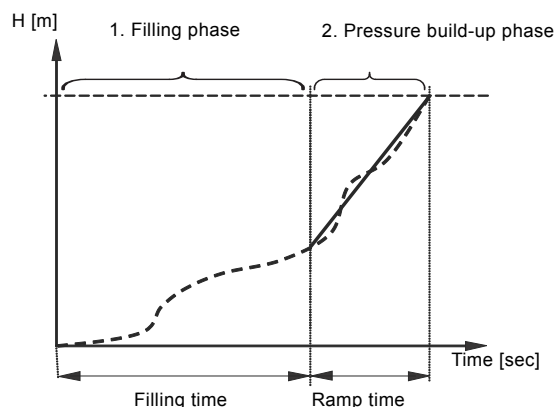

Fig. 16 Filling and pressure build-up phases
2. When the pressure sensor of the system detects that the pipework has been filled with water, the pressure is increased until it reaches the setpoint. See fig. 16.